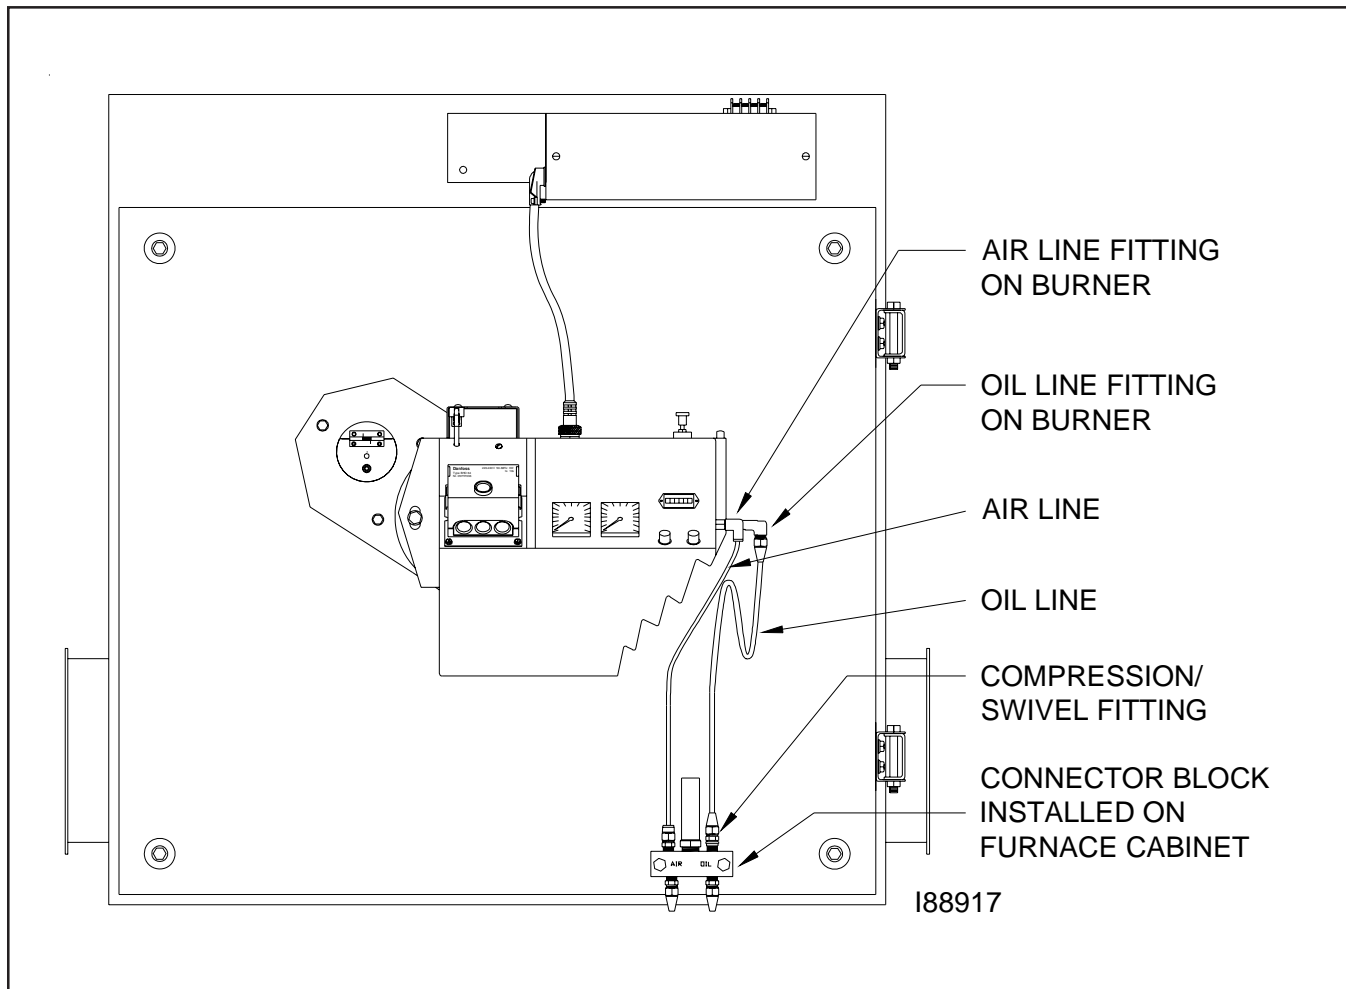

Figure 3I - Installation of Connector Block, Oil Line, and Air Line (Front View)
NOTE: You may also check the positioning of the oil line according to Figure 3I, which provides a larger front view of the connector block assembly.
2. Refer to Figure 3I. Push the air line tubing into the fitting on the connector block until the tubing bottoms out in the fitting.